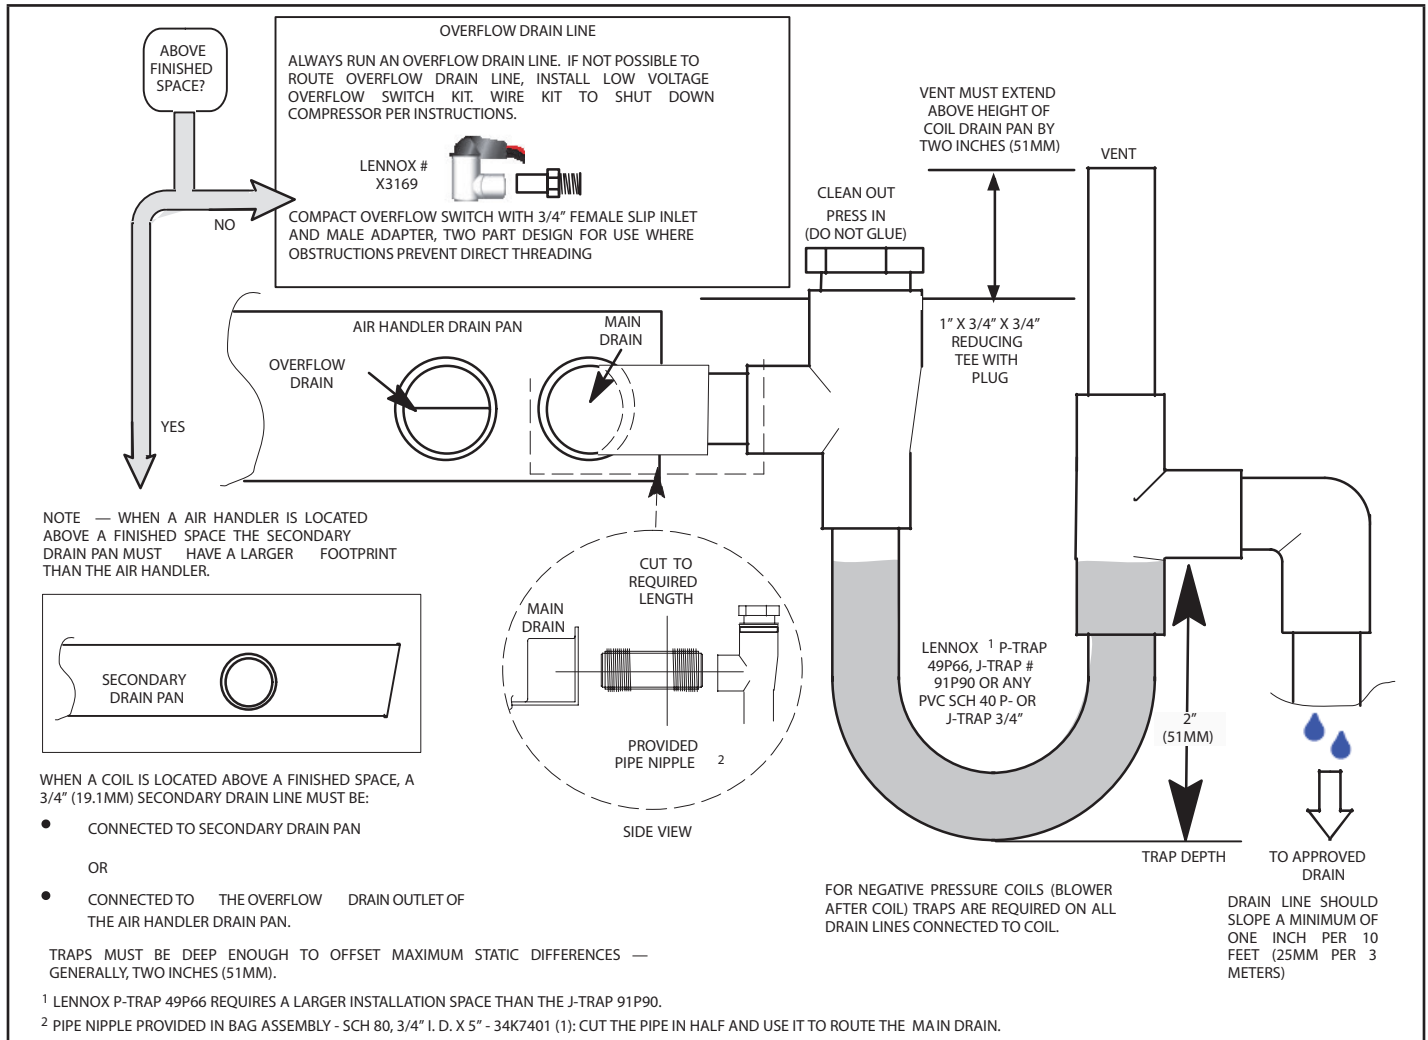

FIGURE 24. Typical Main and Overflow Drain Installations
- 7 - Install a 2" trap in the primary drain lines as close to the unit as practical (see figure 24). Make sure the top of the trap is below the connection to the drain pan to allow complete drainage of the pan.